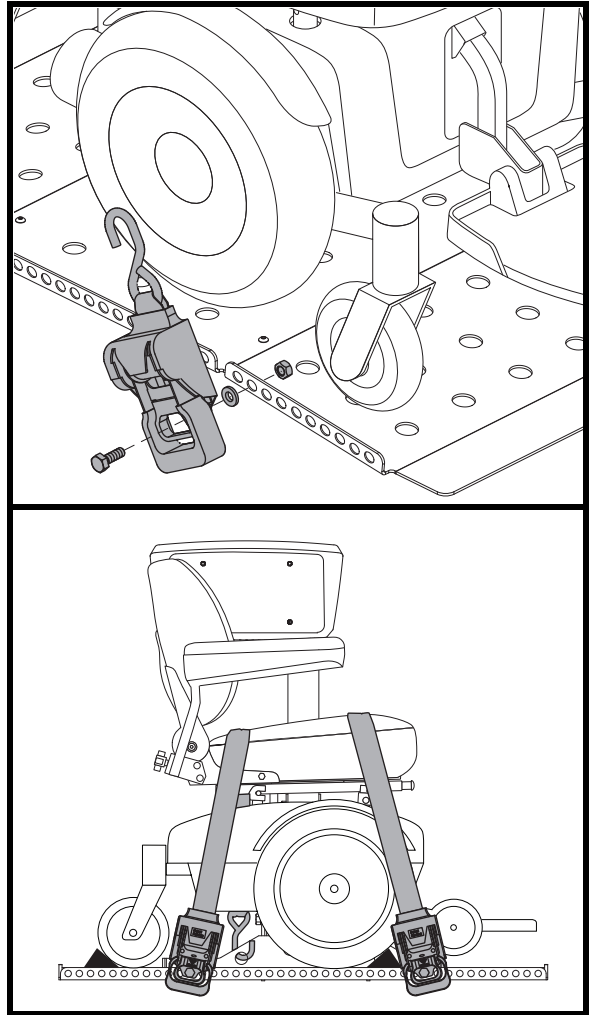

Figure 7. Retractable Tie-down Strap Installation
2. Align the meeting position on strap to the desired mounting point hole on the full platform. See **figure 7**.
3. Install the hardware. See **figure 7**.